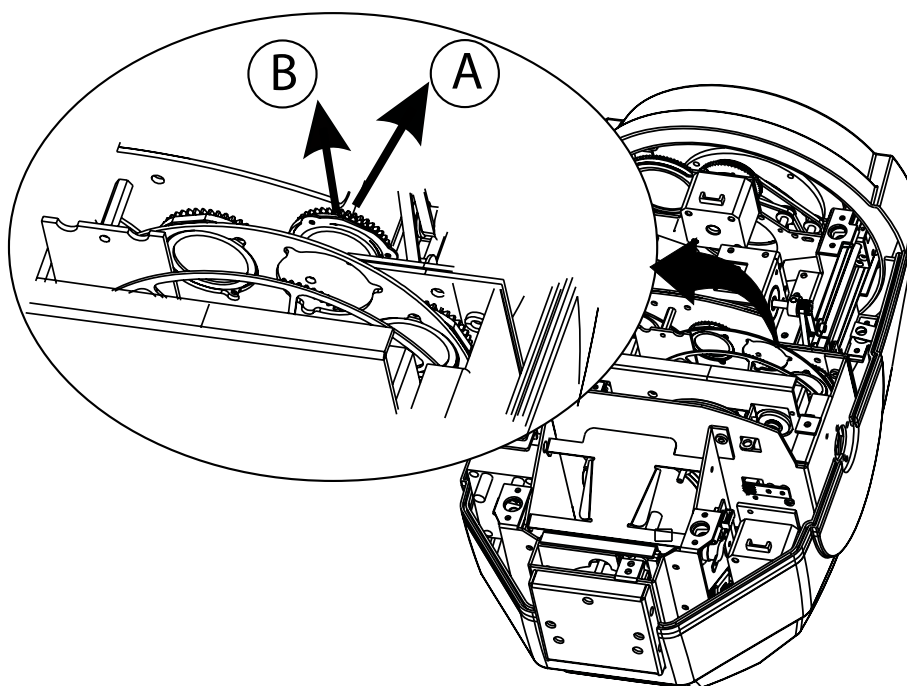

Fig.9
3. Turn the gobo wheel as indicated in fig. 9 in such a way that the gobo to be replaced is on top.
8. Make sure the gobo plate is installed under the pressure plate (C).